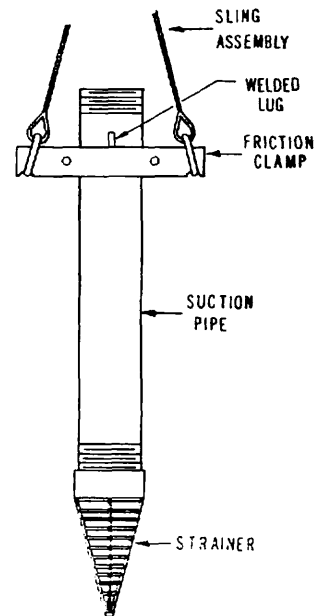

FIG. 7 - SUCTION PIPE AND STRAINER RIGGED FOR LIFTING
1. Attach a pipe clamp to the upper end of the first piece of suction pipe (with strainer attached, if strainer is required), as shown in Fig. 7.